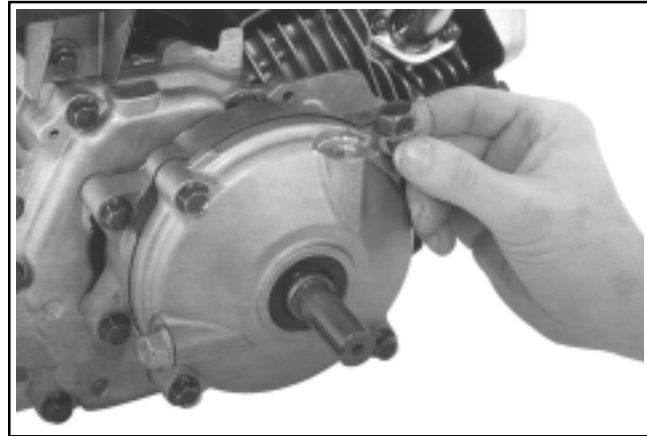

Figure 11-46. Fill/Vent Plug Installation.
9. Install the level plug and fill plug into their respective locations. The fill plug contains a vent hole and must be installed on top. See Figure 11-46. **Torque the plugs to 15-19 N·m (133-168 in. lb.)**.